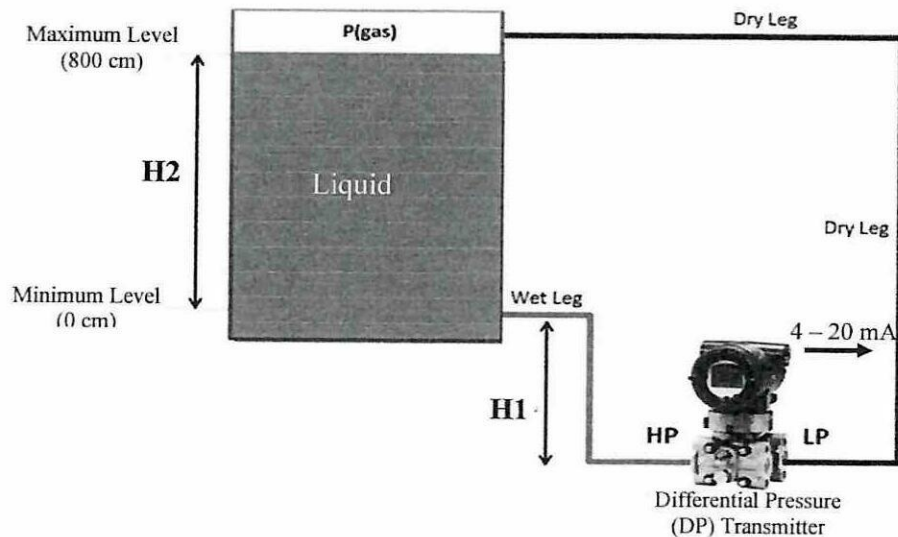

Figure Q2.2: Closed tank liquid level with dry leg method.
- (c) The system used by SirapMerah Sdn. Bhd. for maintained closed tank liquid level using dry leg method is illustrated in **Figure Q2.2**. Given that the $H_1=200$ cm and weight density of the liquid, $S = 7000$ N/m³. (3 marks)